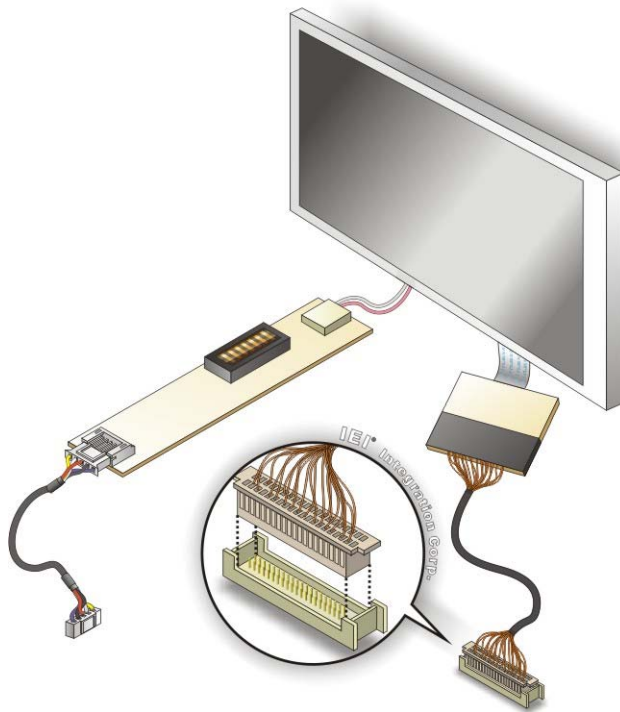

Figure 4-19: LVDS Connector
Step 2: **Insert the cable connector.** Insert the connector from the LVDS PCB driving board to the LVDS connector as shown in **Figure 4-19**. When connecting the connectors, make sure the pins are properly aligned.